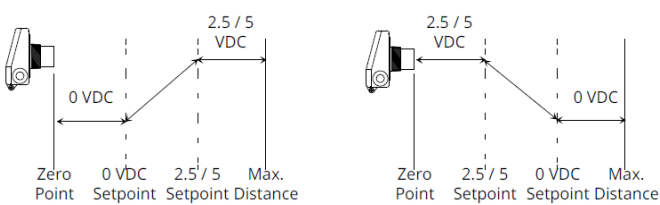

Figure 3.9
- 0 VDC Set Point sets the distance at which the output is 0 VDC. This is measured from the Zero Point. (See Figures 3.9 and 3.10)
This is measured from the Zero Point (See Figures 3.9 and 3.10). Use the Max Voltage parameter to select the high voltage output.
- For Distance configuration (i.e., greater VDC output for target surface further from sensor), set the 0 VDC Set Point to be less than the 2.5/5 VDC Set Point. (See Figure 3.9)
- For Fill configuration (i.e., greater VDC output for target surface closer to sensor), set the 0 VDC Set Point to be greater than the 2.5/5 VDC Set Point. (See Figure 3.9)